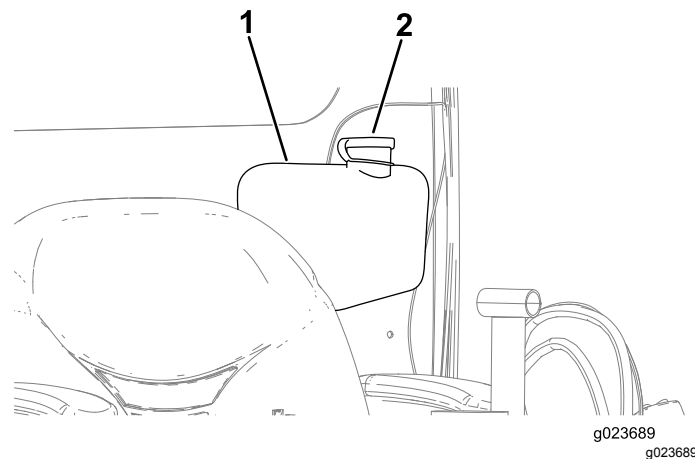

Figure 134
2. Open the cap of the windshield-washer-fluid tank (Figure 134).
3. Fill the windshield-washer-fluid tank until it is full (Figure 134).
4. Close the windshield-washer-fluid-tank cap (Figure 134).